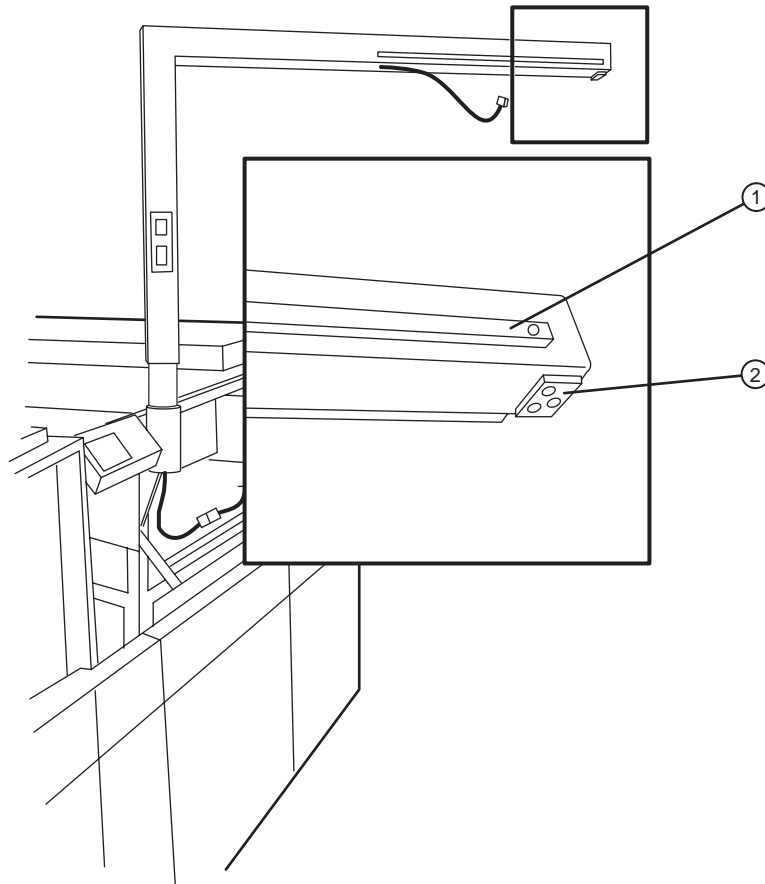
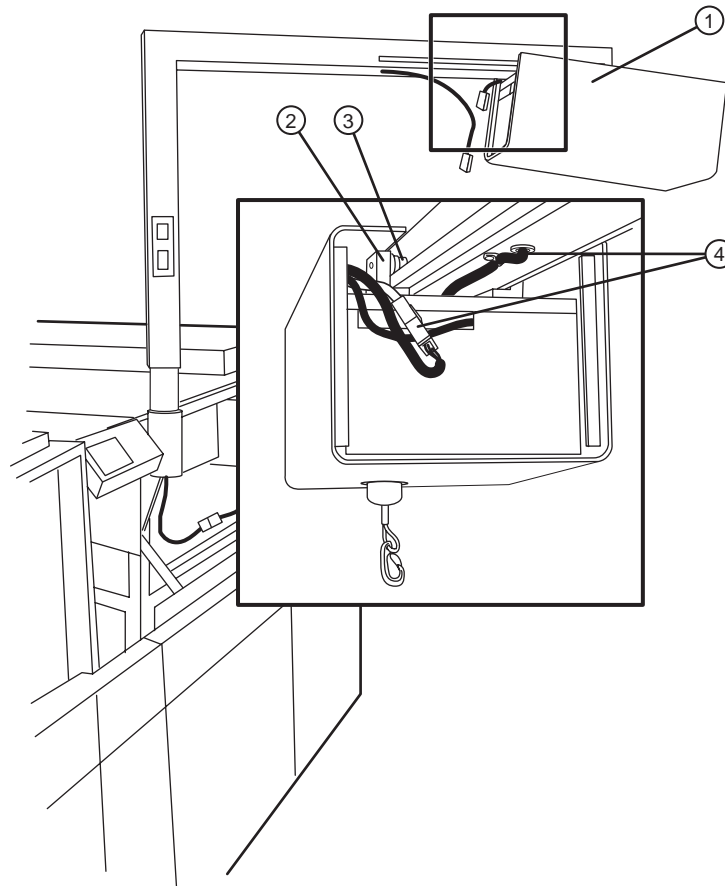

Figure 1-6 The boom with side rails and end stop.
Figure 1-8 Mounting the head.
1. Using a flathead screwdriver, remove the end stop mounted at the tip of the boom arm. Refer to Figure 1-6.
①—Head (rack/cassette crane). ②—Plastic plug.
4. Place the head onto the boom arm, power connector end first. Push the first two guiding rollers over the boom rails (see Figure 1-6) and roll approximately halfway onto the boom. Refer to Figure 1-8.
2. Using a phillips head screwdriver, remove the four (4) screws on the front and back cover of the head.
4. Using a flat head screwdriver, remove the three (3) screws in the end stop at the front of the boom. Figure 1-6.
5. Carefully roll the head off the boom rails. Figure 1-6. Lay the head down on a flat surface with the top (open) end up.